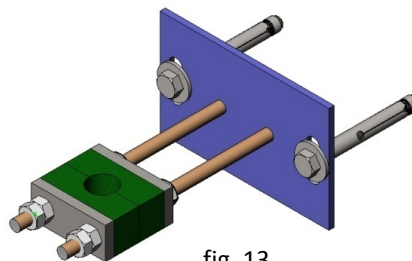

fig. 13
- A stem support-guide is recommended (fig. 13) every 1.5 m.